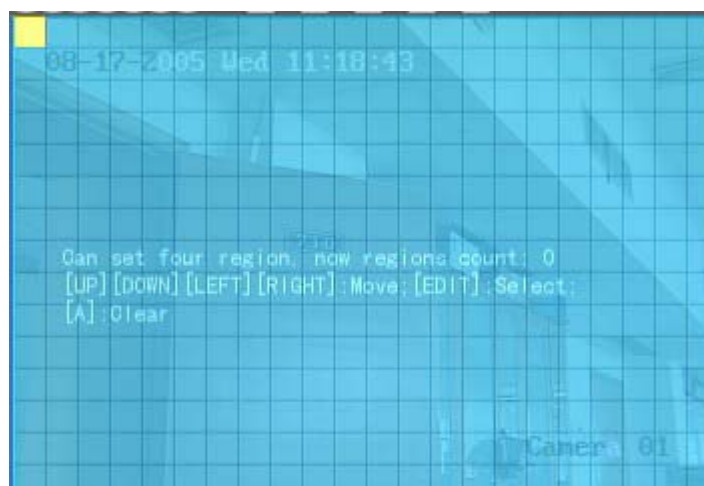

Fig 5.13 Mask area setup
Step 3: Enter into “Advanced settings” enable the check box beside “Privacy Mask”, you can press the **【Enter】** or **【edit】** key to change the flag into “✓”, and activate “Area” button. Move “Active Frame” to “Area” button on the right side of mask check box, press **【ENTER】** key to enter into mask area setup interface shown as fig 5.13